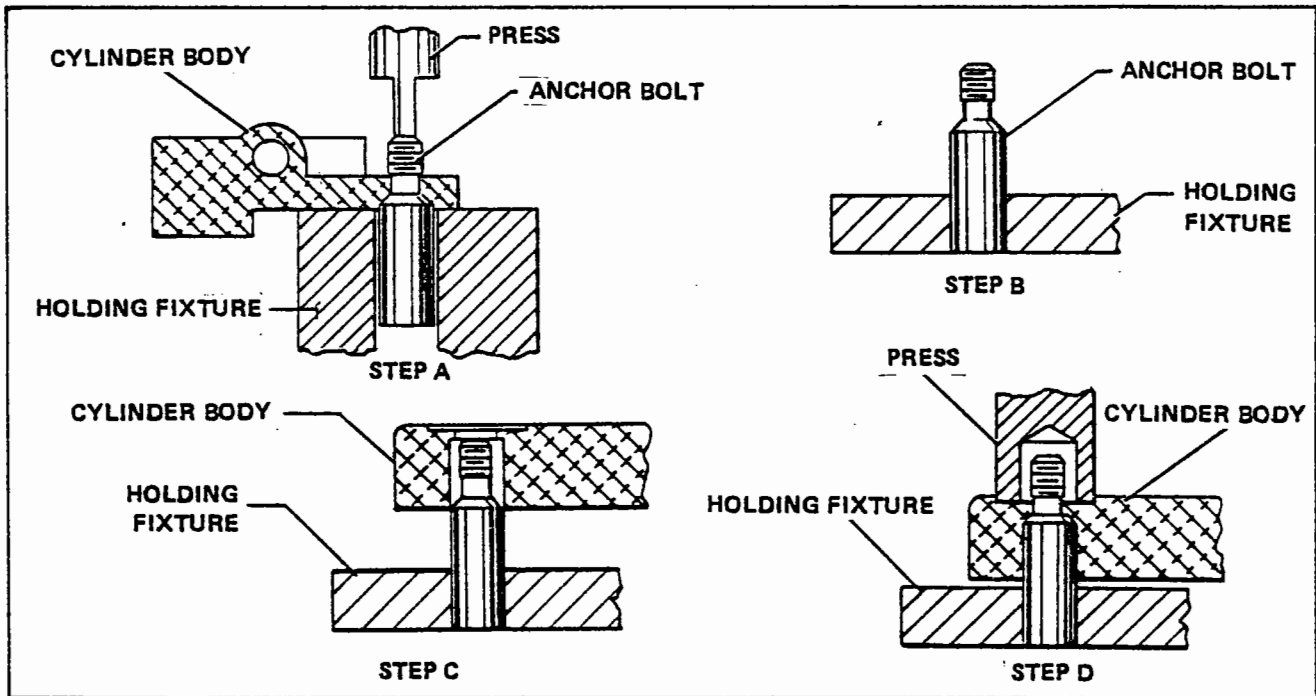

Figure 32-10. Removal and Installation of Anchor Bolts
- A. Position cylinder assembly on a holding fixture. (Refer to Figure 32-10.)
- A. Support anchor bolt in a holding fixture. (Refer to Figure 32-10, Step A.)
- B. Align cylinder body over anchor bolt. (Refer to Figure 32-10, Step B.)
- C. Use a suitable arbor press and apply pressure on the spot face directly over the anchor bolt hole. (Refer to Figure 32-10, Step C.)